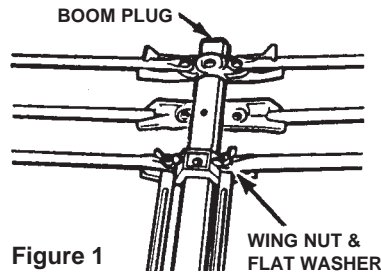

Figure 1
STEP 2. Connect loose elements to stud rivets. Use flat washers and wing nuts from hardware bag to secure loose elements. See Figure 1.
STEP 3. Insert boom plugs into top and bottom of mast. See Figure 1.